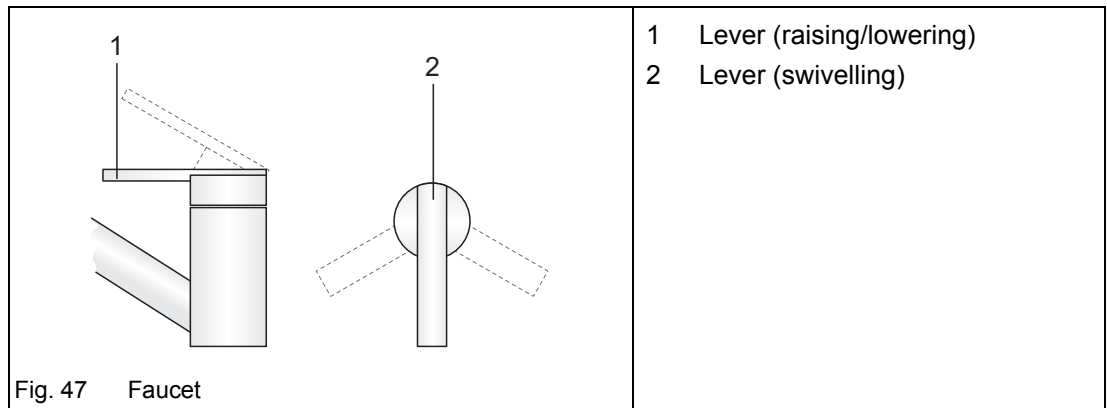

Fig. 47 Faucet
- Move the lever (Fig. 47/1) upward to turn on the water pump.
- Adjust the desired temperature by swivelling the lever (Fig. 47/1).
- Push the lever (Fig. 47/1) fully downward to stop the water.